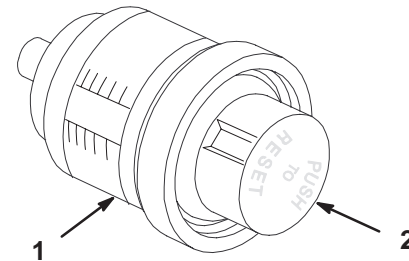

Figure 39
2. Reset the gauge by depressing the button in the bottom of the canister until the plunger returns to the lowest point (Fig. 39).